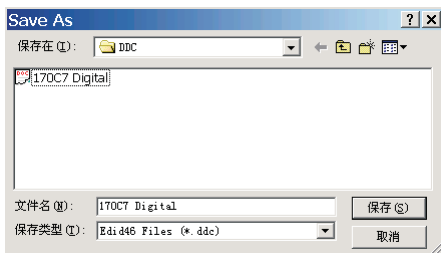

Fig.46
- Click (Save) icon (or click "file"-> "save as") from the tool bar and give a file name as shown in Fig. 46. The file type is EDID46 file (\*.ddc) which can be open in WordPad. By using WordPad, the texts of DDC data & table (128 bytes, hex code) can be modified. If DDC TEXTS & HEX Table are completely correct, it can be saved as \*.ddc file to re-load it into DDC IC for DDC Data application.